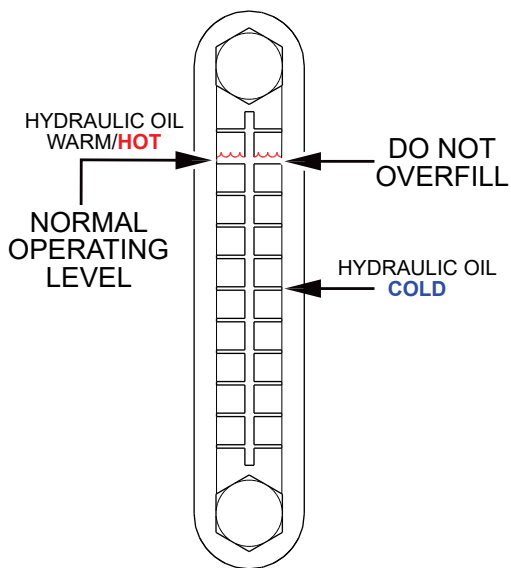

Figure 11. Hydraulic Sight Glass
1. Visually read the hydraulic sight glass (Figure 11) to see if the hydraulic oil level is low.